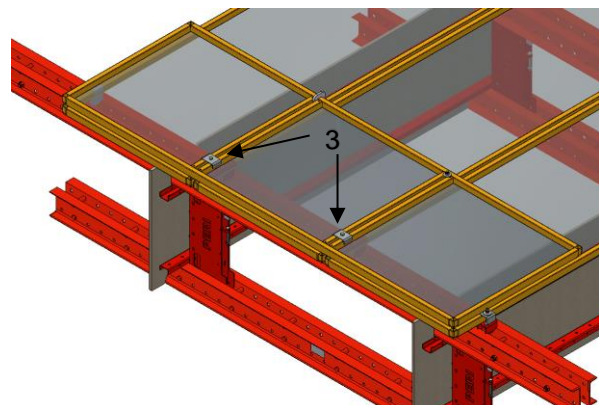

Fig. 11: Transport width
7. Move in the telescope element completely. (Fig.11)